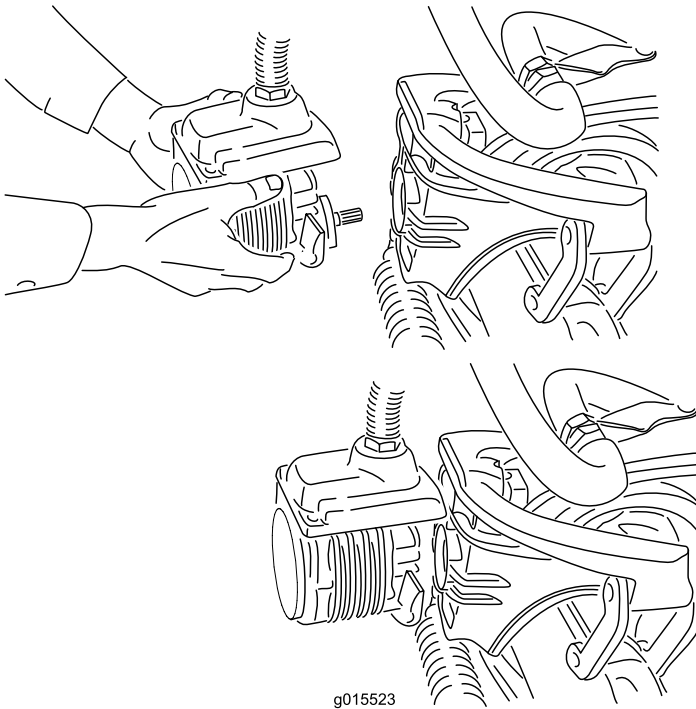

Figure 36
4. Move the motor to the storage location on the front of the suspension arm (Figure 36).